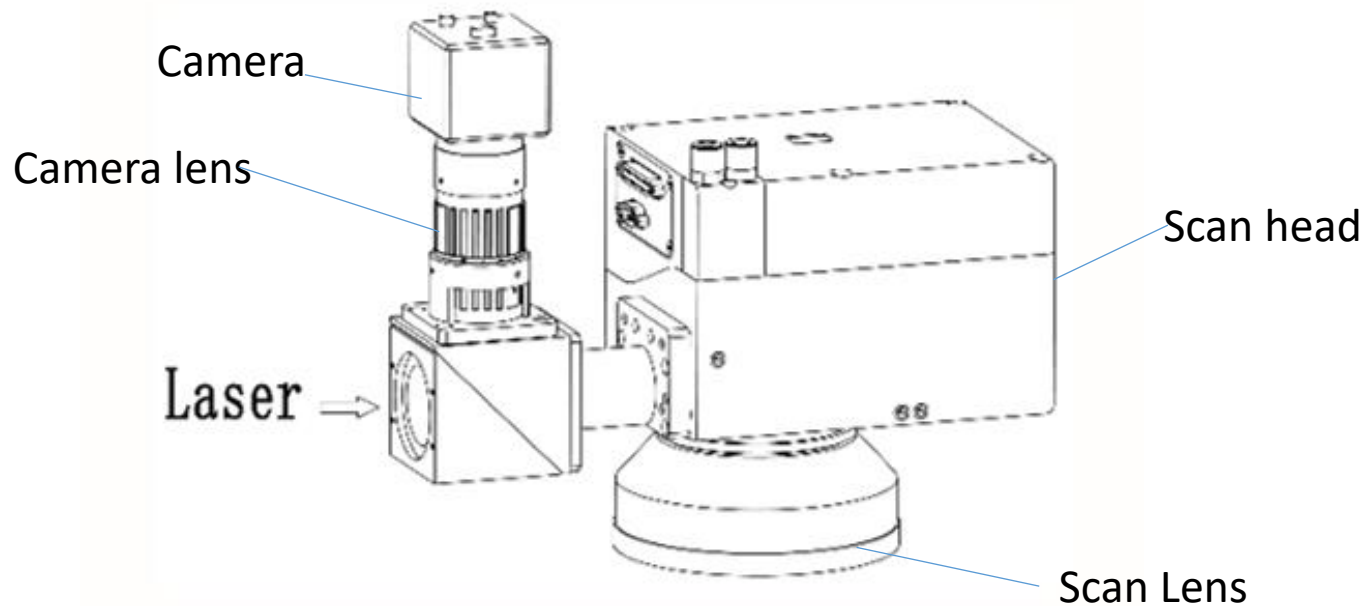

Figure1
- Standard visual module(Figure1), also called “front coaxial system”